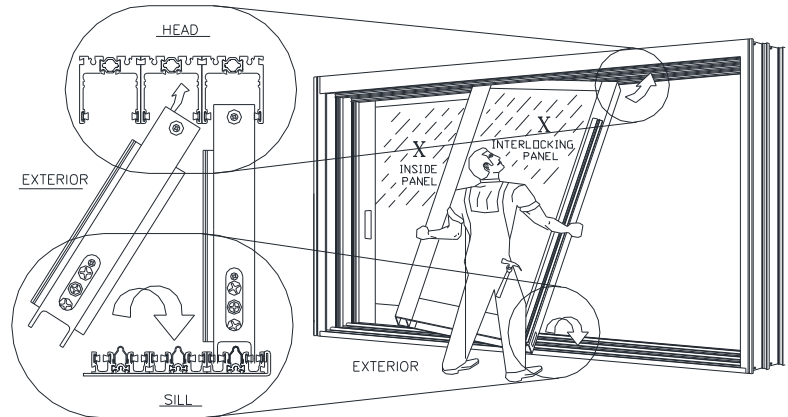

Figure 26:
2. Insert panel into the upper head channel. Push up and swing the bottom inward until panel is vertical, then lower panel down onto the track (Figure 26).